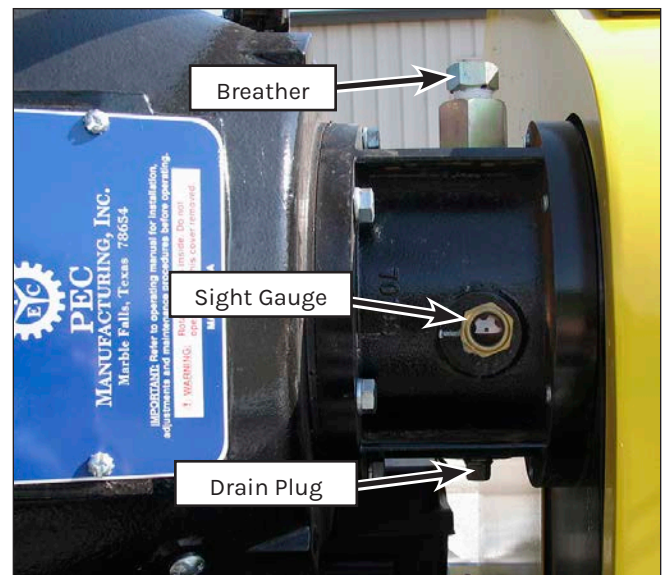

Figure 137: PTO.
1. With the engine off, remove the drain plug (Figure 137) from the oil drain valve located on the back of the power end case.